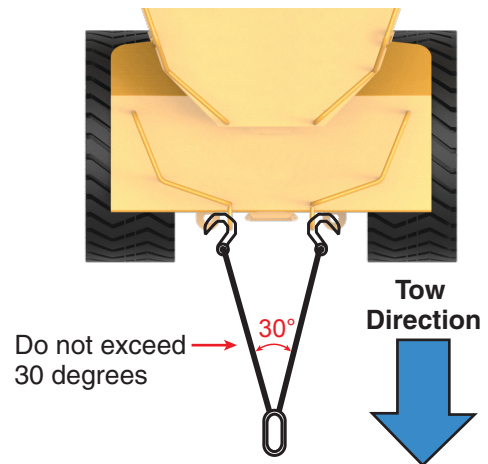

Figure 5-7-1 Towing with double leg sling chain
Tow eyes are rated at 40,000 lbs each when using either the double leg sling chain as shown in figure 5-7-1 or two chains as shown 5-7-2. Keep direction of pull in-line with bogie within 15 degrees.
1. Connect chains as shown in figure 5-7-1 or 5-7-2.
Tow backwards in the direction the bogie is facing. Failure to do so may cause damage to machine (see Figures 5-7-1 and 5-7-2).
Do not exceed 30 degrees when connecting tow chain as shown in Figure 5-7-1 or damage to machine can occur.